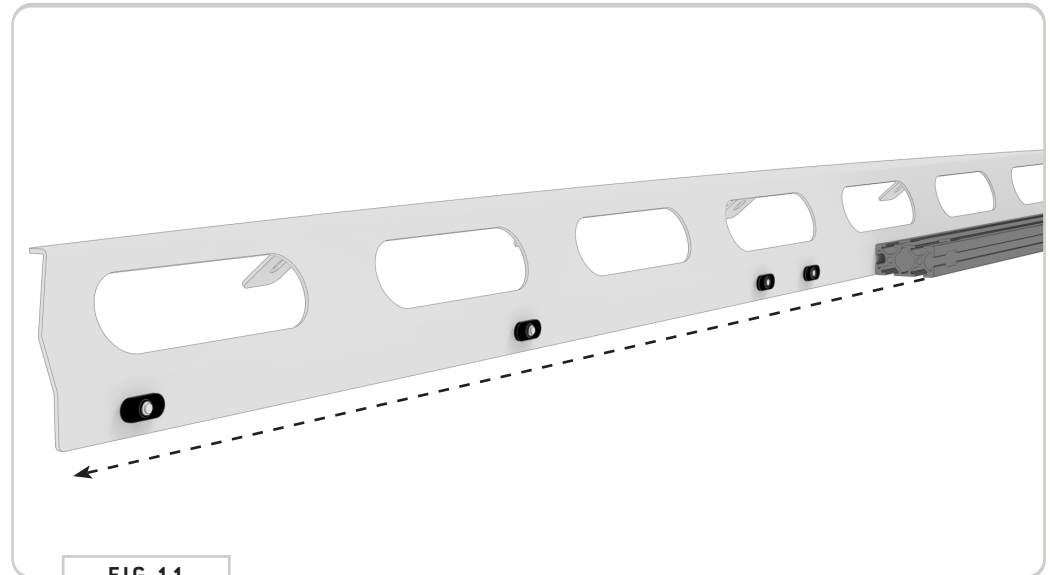

FIG 11
**4.2 Crossbar Install:** Now, slide the **Crossbar** onto the **Crossbar Fairing Bracket**. You'll have to straighten each **T-Nut** as you go to get it to feed into the crossbar correctly (FIG 11).